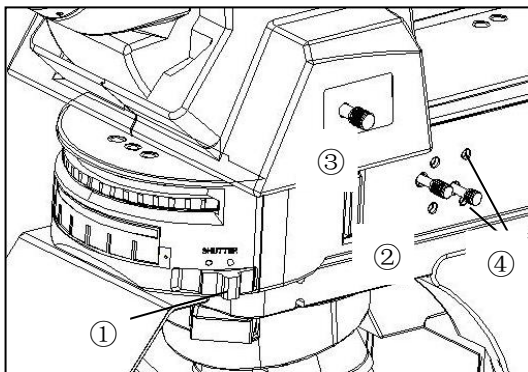

Fig 3
(fig3)
1. Switch the light shutter ① to “●” position to shut off the light path.
3. Switch the light shutter ① to “O” position to open the light path.
7. Pull out the aperture diaphragm lever ② to adjust the aperture iris diaphragm to the smallest diameter.
8. Pull out the field iris diaphragm lever ③ to adjust the field iris diaphragm to the smallest diameter. The image of aperture iris diaphragm can be found on the centering plate.
- 9 . Adjust the aperture iris diaphragm centering screws④ with attached wrench to superpose the image of aperture iris diaphragm on the cross of centering plate.
**Adjusting the aperture iris diaphragm (fig.3)**